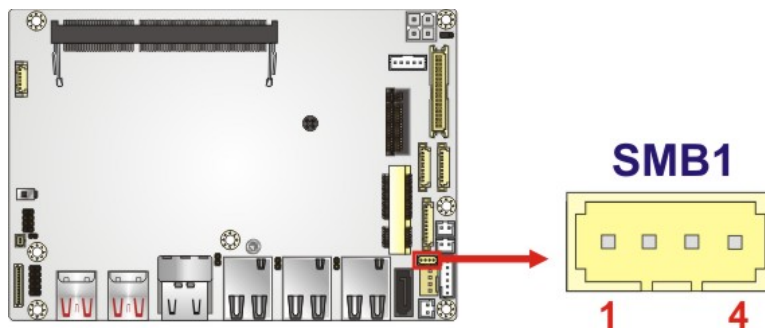

Figure 3-20: SMBus Connector Location
- CN Location:** See **Figure 3-20**